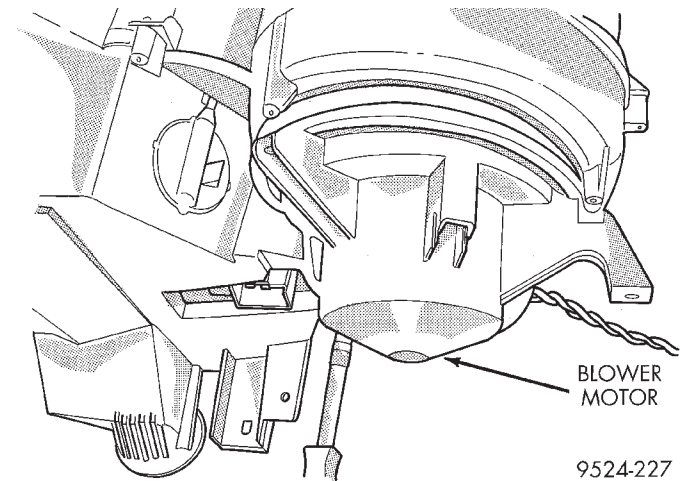

Fig. 83 Blower Motor
(13) Remove blower motor (Fig. 83).